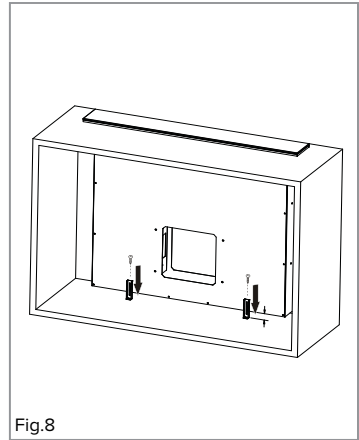

Fig.8
7) Use the screws provided to fix the brackets to the extractor (Fig.7) and then the bracket to the cabinet interior (Fig.8). The minimum distance between the bottom of the bracket and the bottom of the cabinet is 20mm and the maximum is 60mm